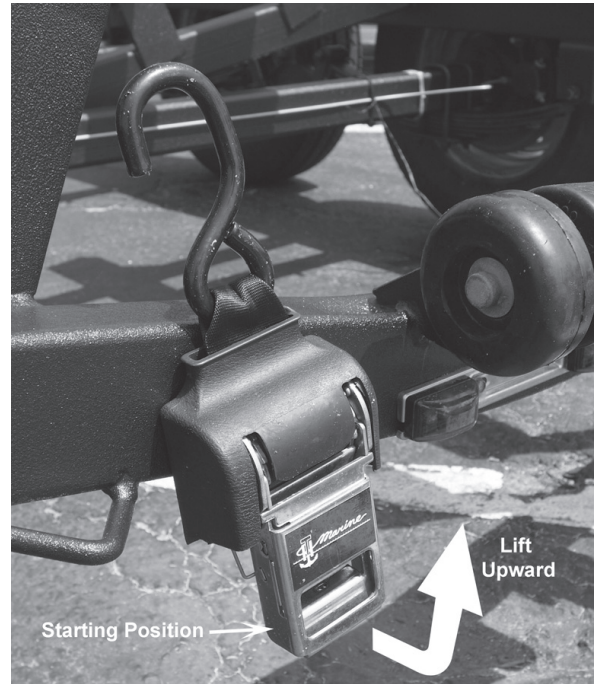

Figure F13: Rear Tie Down Strap - Tightening
2. Return handle to start position and repeat step one. Continue until strap has been sufficiently tightened. See Figure F13.